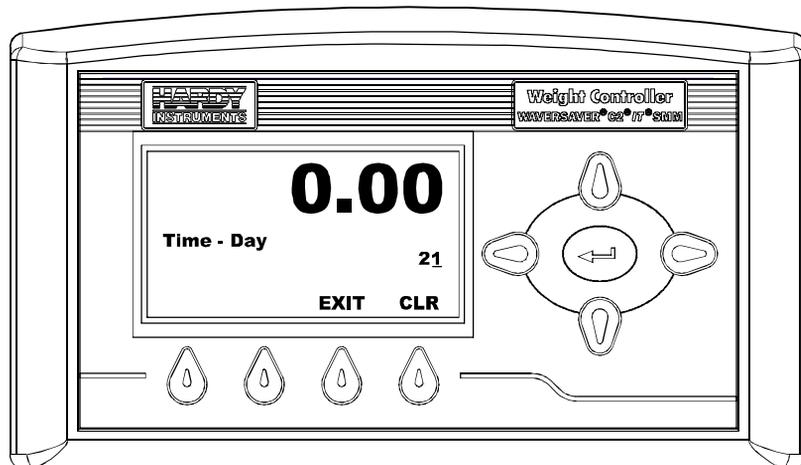

FIG. 103 TIME - DAY MENU
Step 12. Press the Enter button. The Time - Day Menu appears. (See Fig. 103) The present Day is displayed.